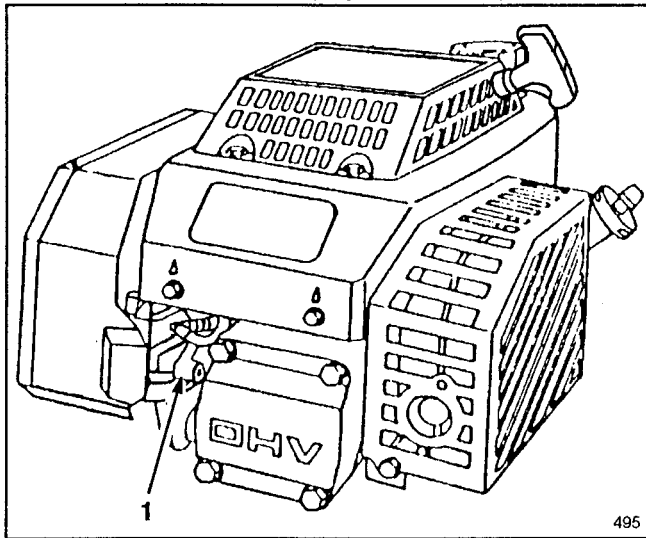

Figure 18
1. Stop engine and pull wire off spark plug (Fig. 18). Remove key from switch (key start model).
1. Stop engine and wait for engine to cool. Pull wire off spark plug (Fig. 18). Remove key from switch (key start model).